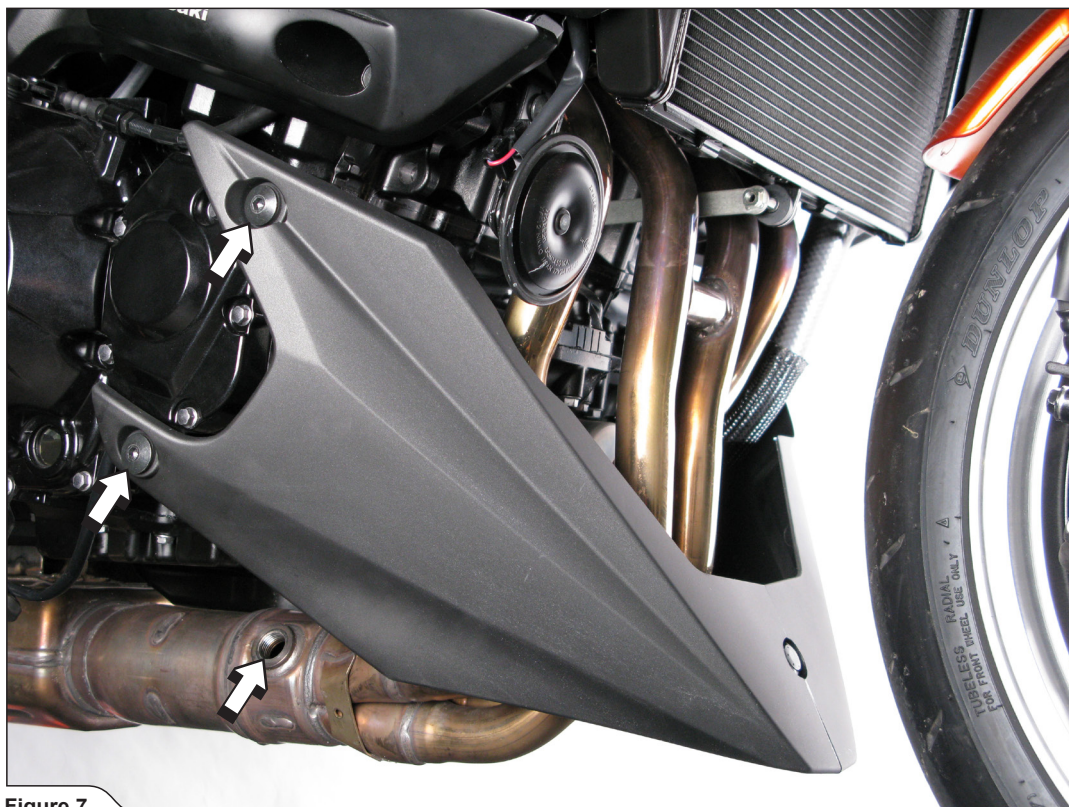

Figure 7
6. Unscrew the marked lambda sensor and marked bolts on both sides of the motorcycle and remove the lower cowling (Figure 7).